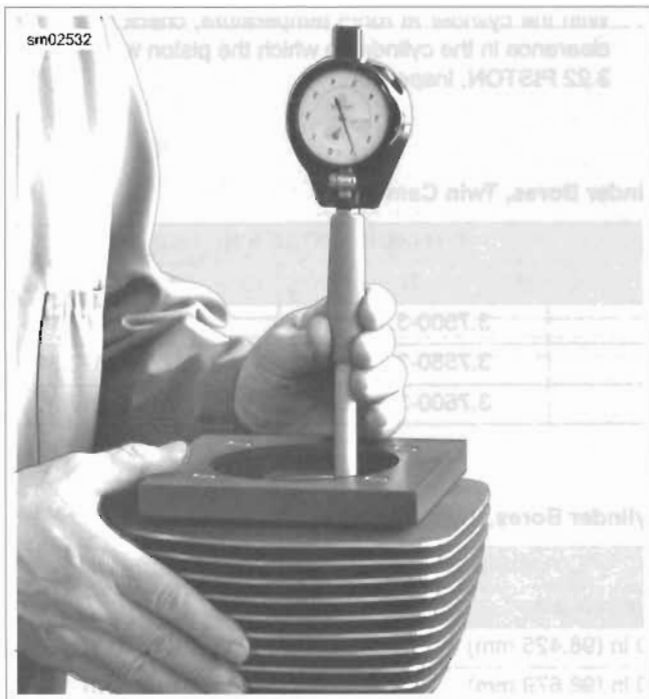

Figure 3-60. Measure for Out-of-Round and Taper
4. See Figure 3-60. Using an inside micrometer or dial bore gauge, check cylinder bore for out-of round and taper: